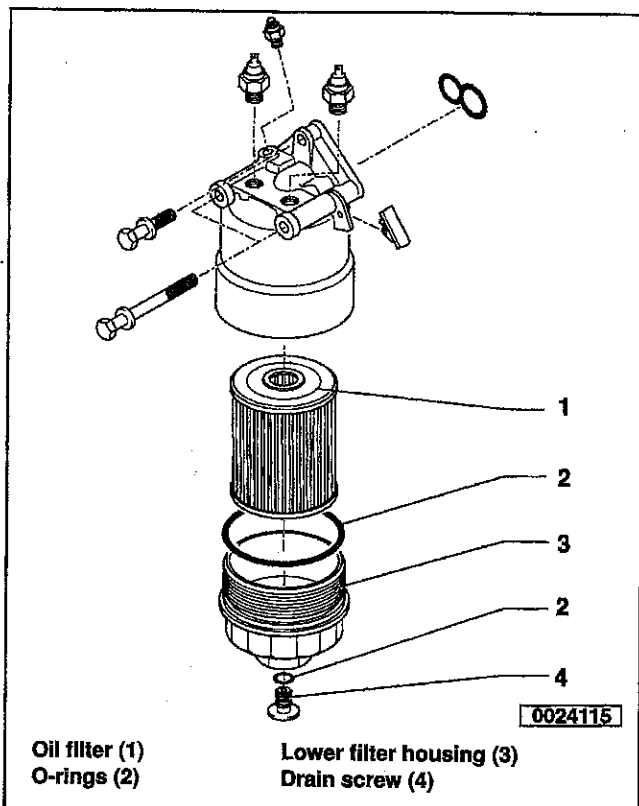

Fig. 12. Oil filter assembly used on AAA (VR6) engine.
1. Drain oil from oil filter housing by removing drain screw. See Fig. 12.